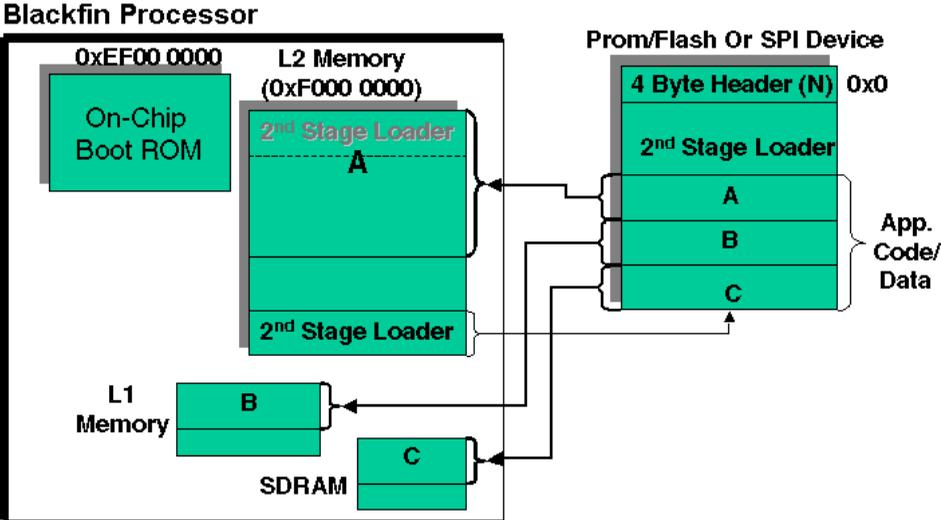

Figure 5-6. Booting Application Code into Blackfin Processor Memories
- The second-stage loader boots in the application code/data into the various memories of the Blackfin processor (Figure 5-6).